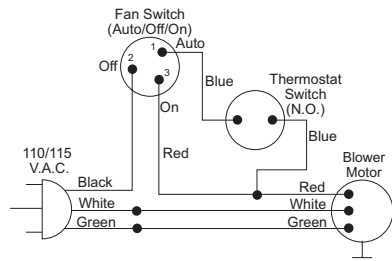

Figure 15 - Wiring Diagram For Blower Accessory Standard Installation
- Carefully disconnect green and white wires at their insulated connectors (see Figure 15).